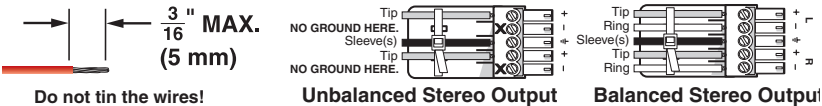

Figure 1-9 — Audio Output connector wiring
- 10 Captive screw audio connector (MTP R SV A, MTP R AV) — Connect a balanced or unbalanced audio device, such as an audio amplifier, to this 3.5 mm, 5-pole captive screw connector. See Figure 1-9 to properly wire the output connector.